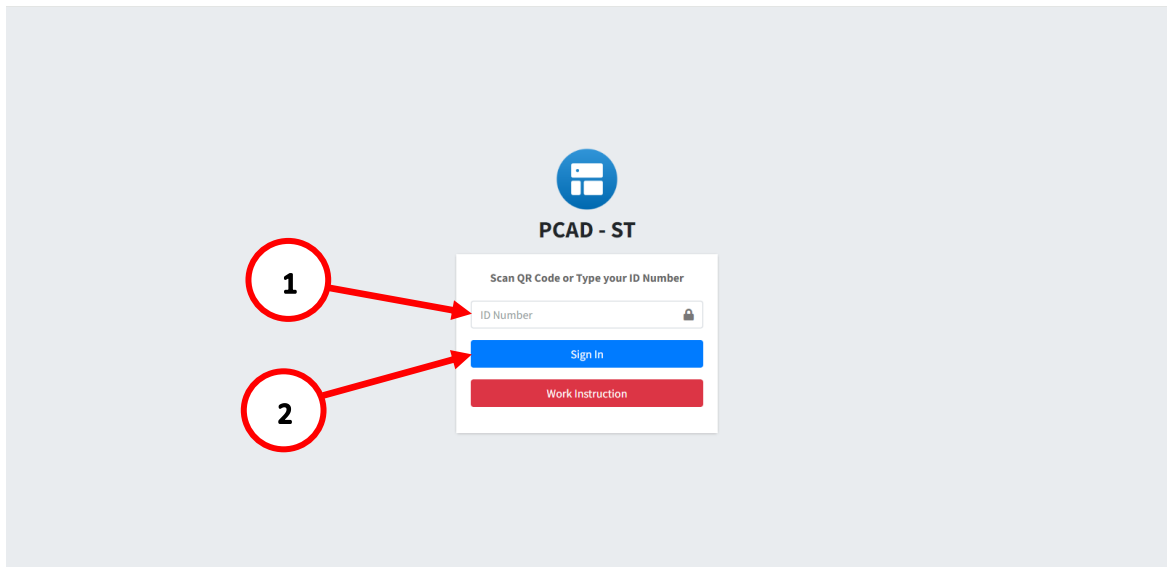

Figure 1.0
1. Scan or Enter ID Number of ST Account (See Figure 1.0).
2. Click **Login** Button to access the ST Masterlist Interface (See Figure 1.0).